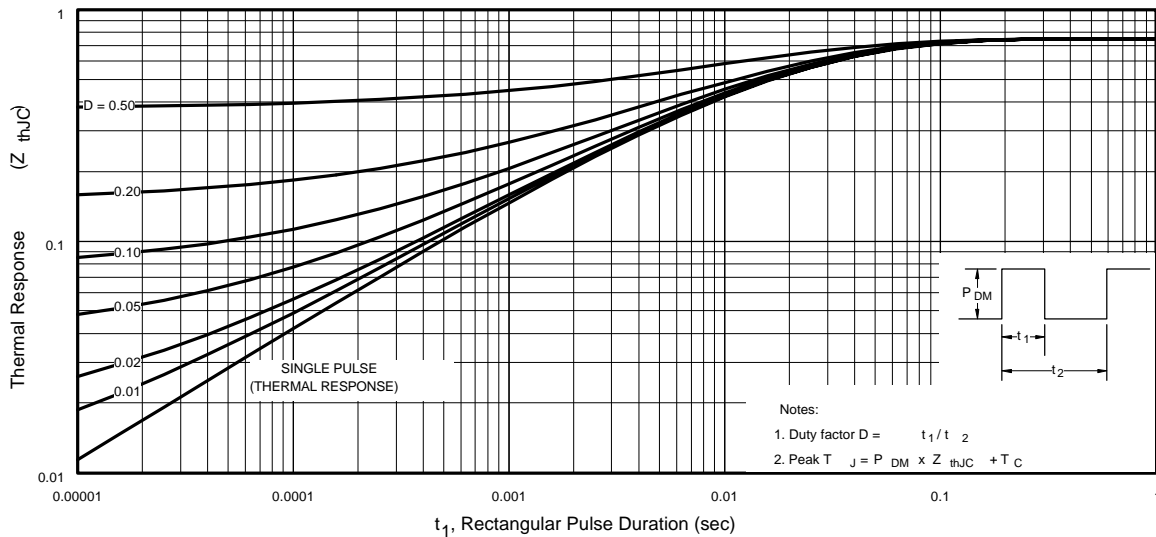

Fig 11. Maximum Effective Transient Thermal Impedance, Junction-to-Case
- ① Repetitive rating; pulse width limited by max. junction temperature. (See fig. 11).
- ② Starting $T_J = 25^\circ\text{C}$, $L = 0.13mH$
$Z_{thJC}(D, t_{av})$ = Transient thermal resistance, see figure 11)